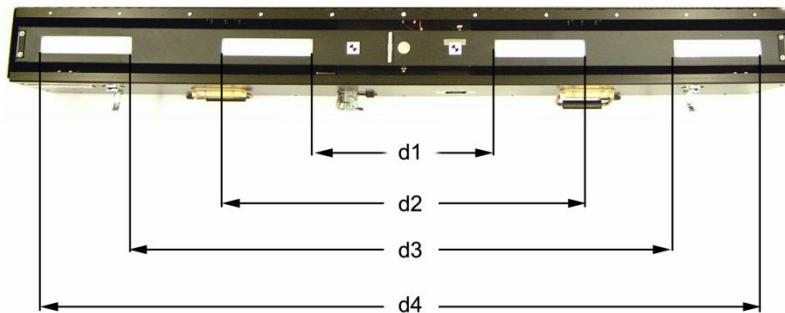

Figure 6.2 Edge Separation Distances
The calibrator has 8 bright edges separated by precisely spaced widths by use of a certified Invar mask. The width separation values of d1, d2, d3 and d4 (Figure 6.2) are always constant and known to the calibration software. During calibration the scanner will measure the width separation d1, d2, d3, and d4 and compare the measured values against the known actual width values. The differences of the measured and actual width values are placed into a mathematical algorithm that will compensate and minimize the error in future measurements. The result of this compensation is a set of calibration coefficients that when used, the equation of the line will linearize the nonlinear lens characterization curve and provide a means for accurately measuring width.
- 1) Release the scanner cover latches (Fig 6.2) and remove the scanner cover. If the bubble is in the middle of the spirit level, the scanner is level, proceed to Stage 3.